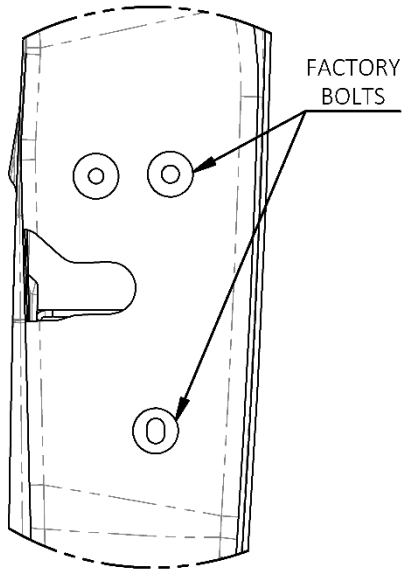

Figure 6: Inner Door Latch
13. Remove the two factory bolts that hold the door latch in place, shown in Figure 6.